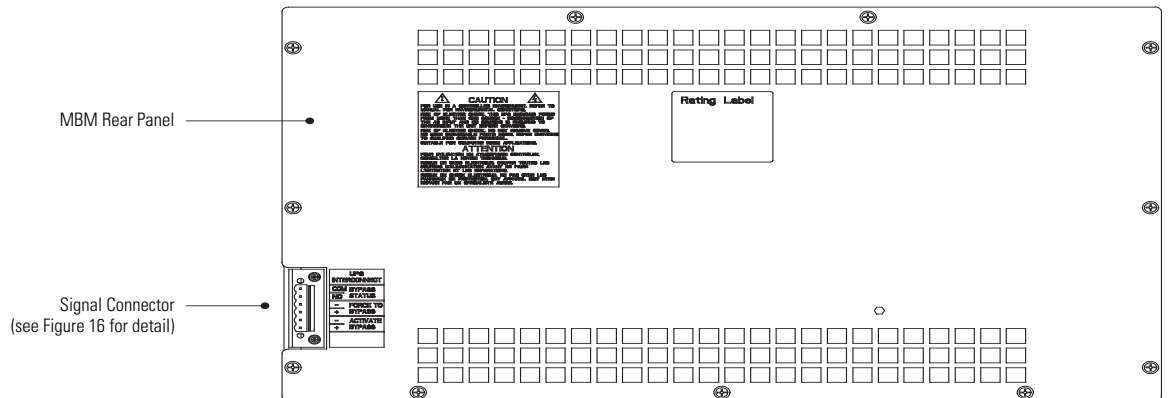
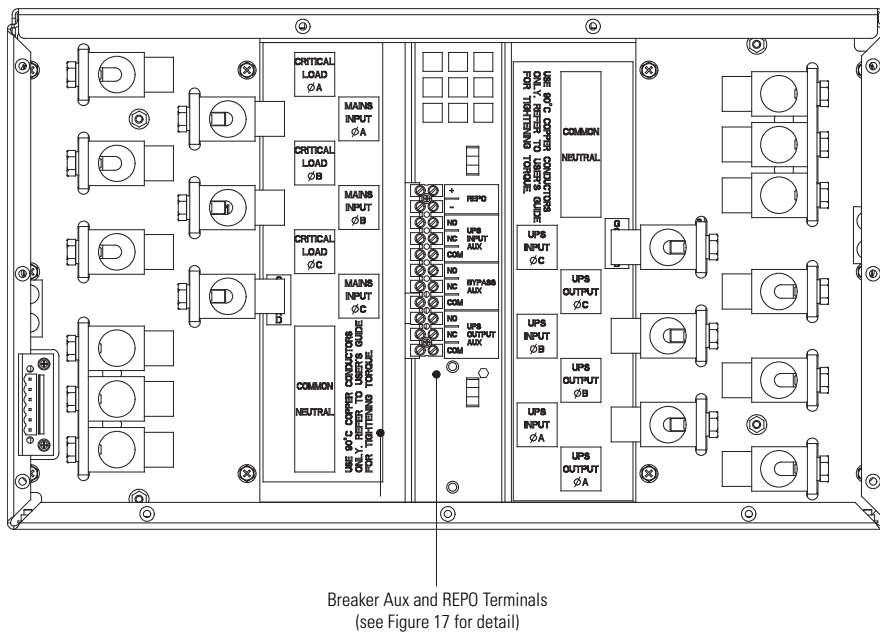

Figure 14. Signal Input and Output Connector
Figure 15. Breaker Aux and REPO Terminals (Rear Panel Removed)
Figure 14 shows the location of the signal input and output terminals. Figure 15 shows the Breaker Aux and REPO terminals on the Maintenance Bypass Module (MBM).
5. Route the aux wiring through either the top or bottom of the cabinet to the MBM aux terminals. Use conduit between the facility equipment and the MBM. See Figure 15 on page 23 for terminal block location.